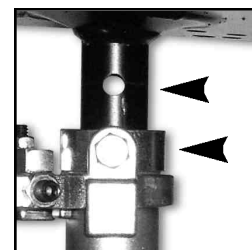

Figure 4
*It is recommended that the Seat Lock be installed in the second hole position from the seat on a Folding Seat and the Premier I Seat. (**Figure 4**)*